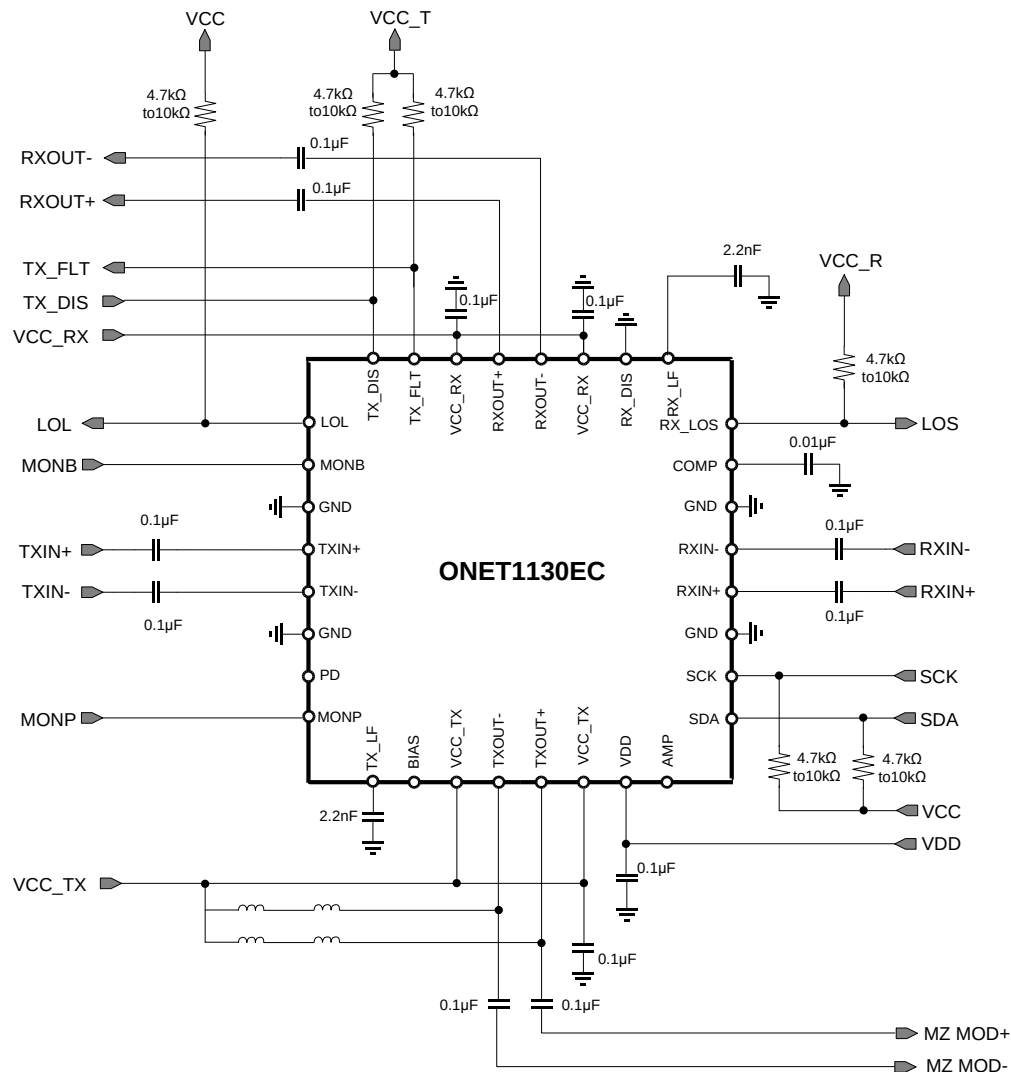
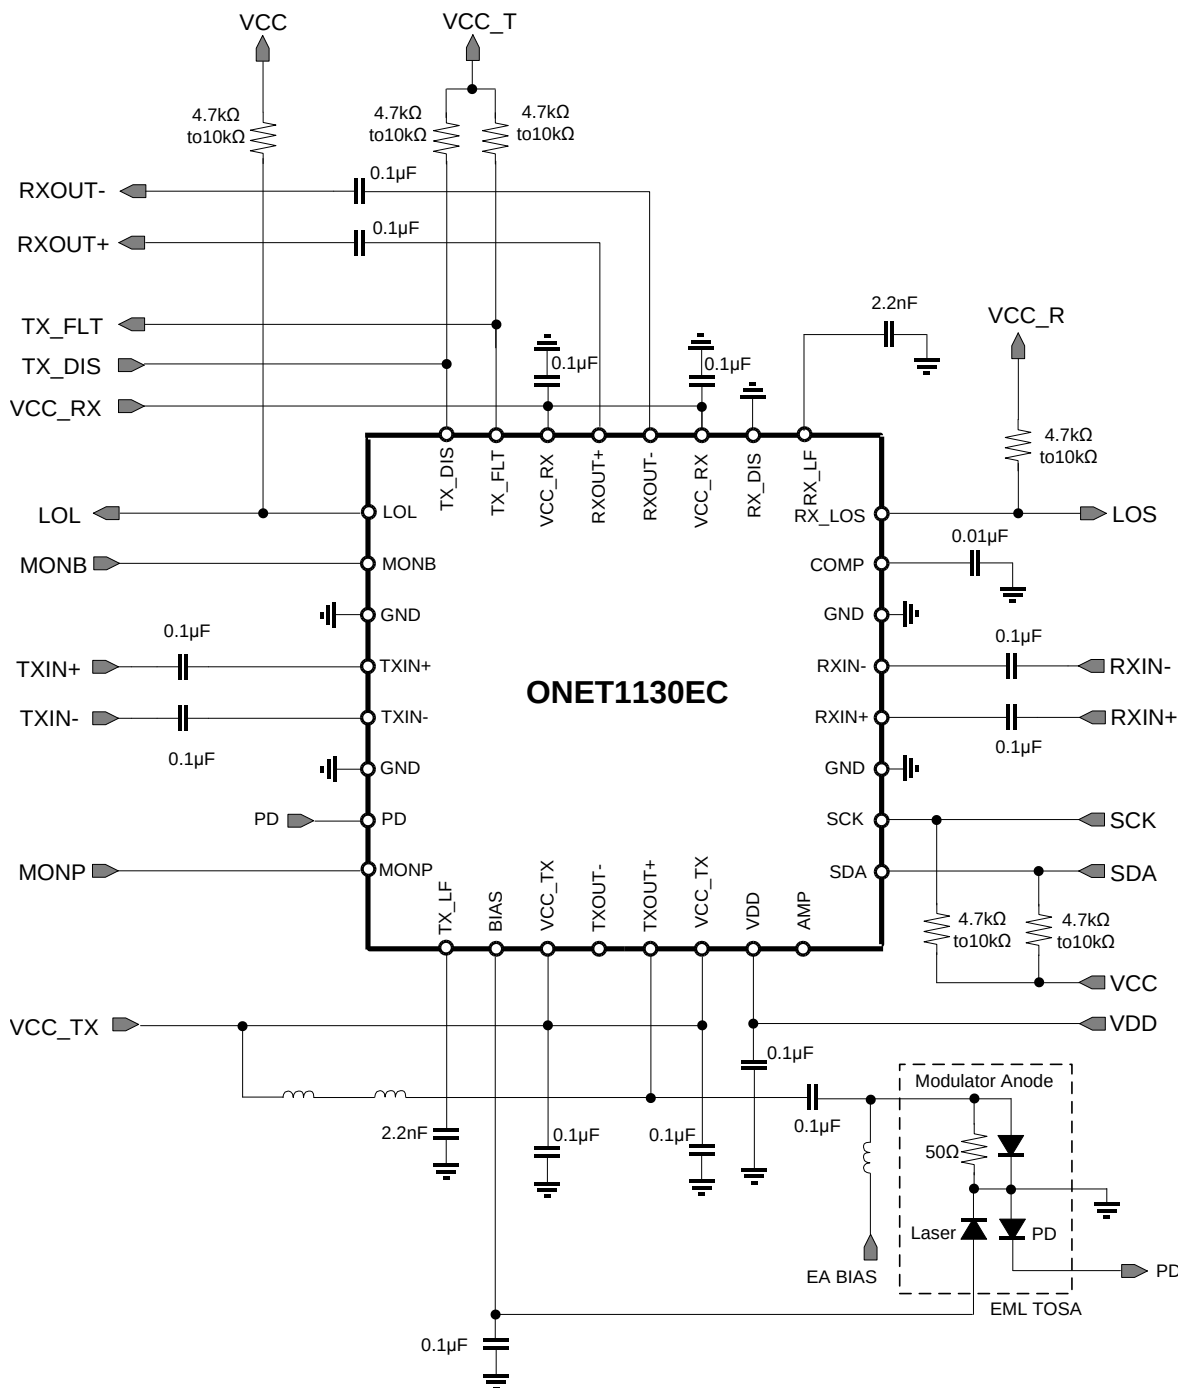

Figure 68. Typical Application Circuit in Differential Mode
Figure 70. Typical Application Circuit in Single-Ended Mode with an EML and the PD Monitor Cathode Available
The ONET1130EC is designed to be used in conjunction with a Transmitter Optical Sub-Assembly (TOSA) and a Receiver Optical Sub-Assembly (ROSA). The ONET1130EC, TOSA, ROSA, microcontroller and power management circuitry will typically be used in an XFP or SFP+ 10 Gbps optical transceiver. Figure 68 shows the ONET1130EC in differential mode of operation modulating a differentially driven Mach Zehnder (MZ) modulator TOSA and Figure 70 and Figure 71 show the device in single-ended output mode with an Electroabsorptive Modulated Laser (EML) TOSA. Figure 70 has the photodiode cathode available and Figure 71 has the photodiode anode available.